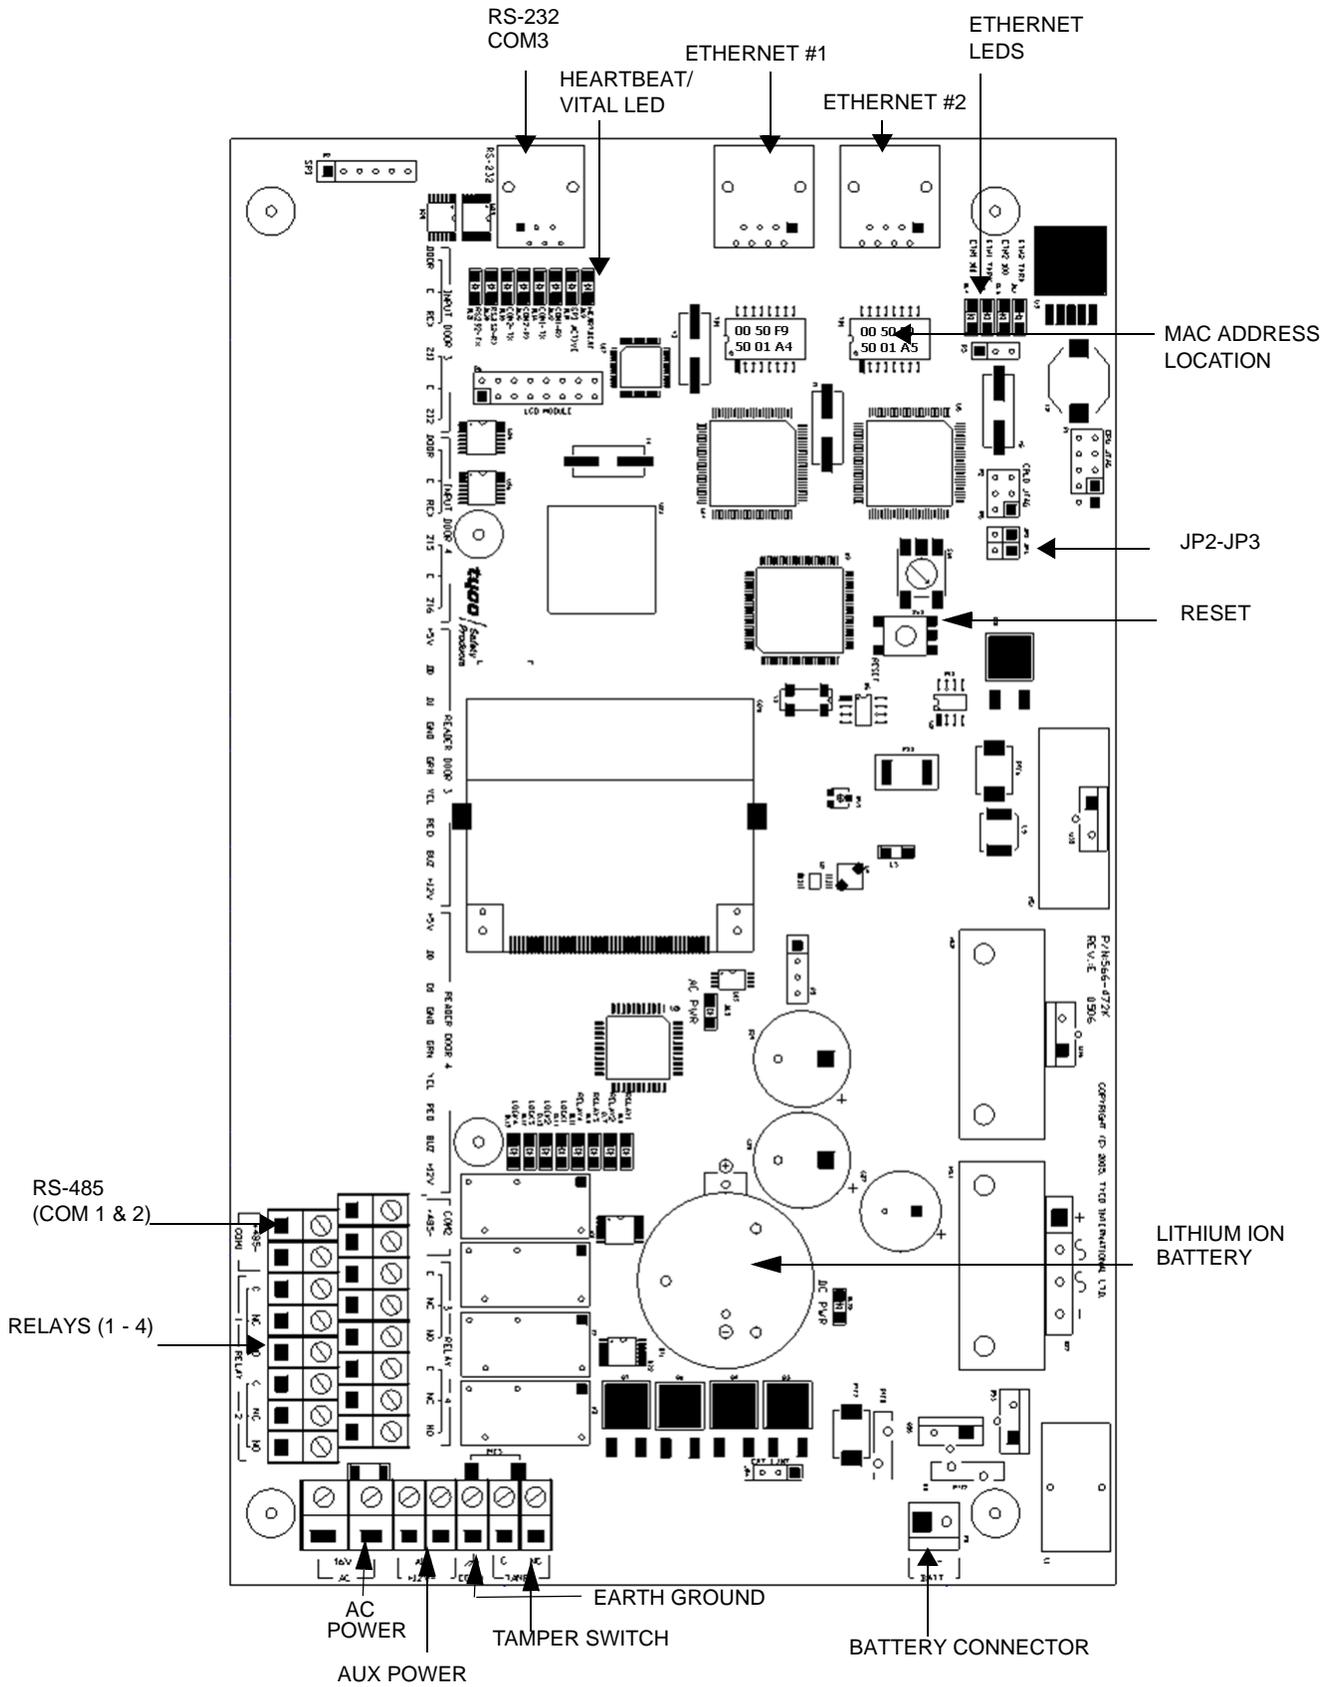

Figure 25 KT-NCC Printed Circuit Board
- The MAC Address of the KT-NCC is already configured. The MAC address is found on the top right of the KT-NCC circuit, under Ethernet Port #1, see Figure 25 on Page 37.
**Note:** The MAC address can be found on the KT-NCC board, underneath the Ethernet #1 port. It is a 12-digit hexadecimal code, with each two digits separated by a dash (i.e. xx-xx-xx-xx-xx) Refer to Figure 25 on Page 37 to locate the MAC address on the KT-NCC board.